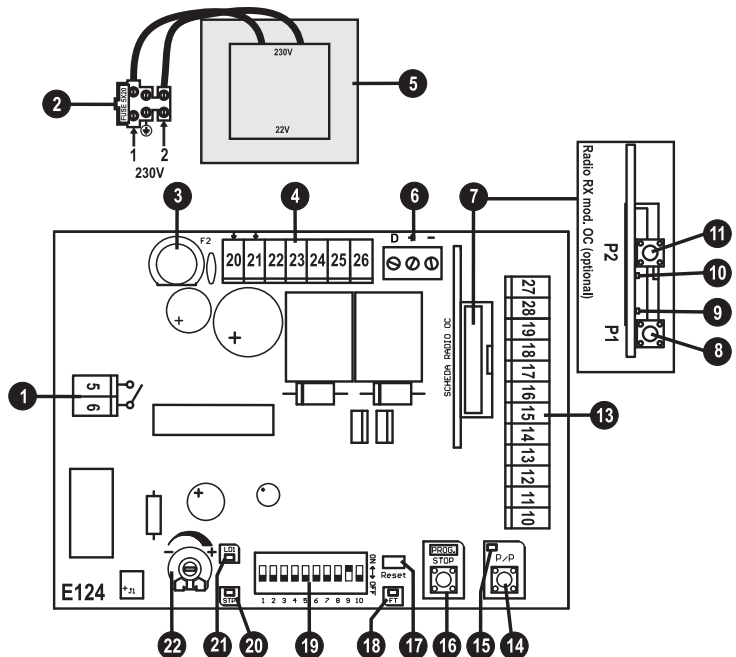
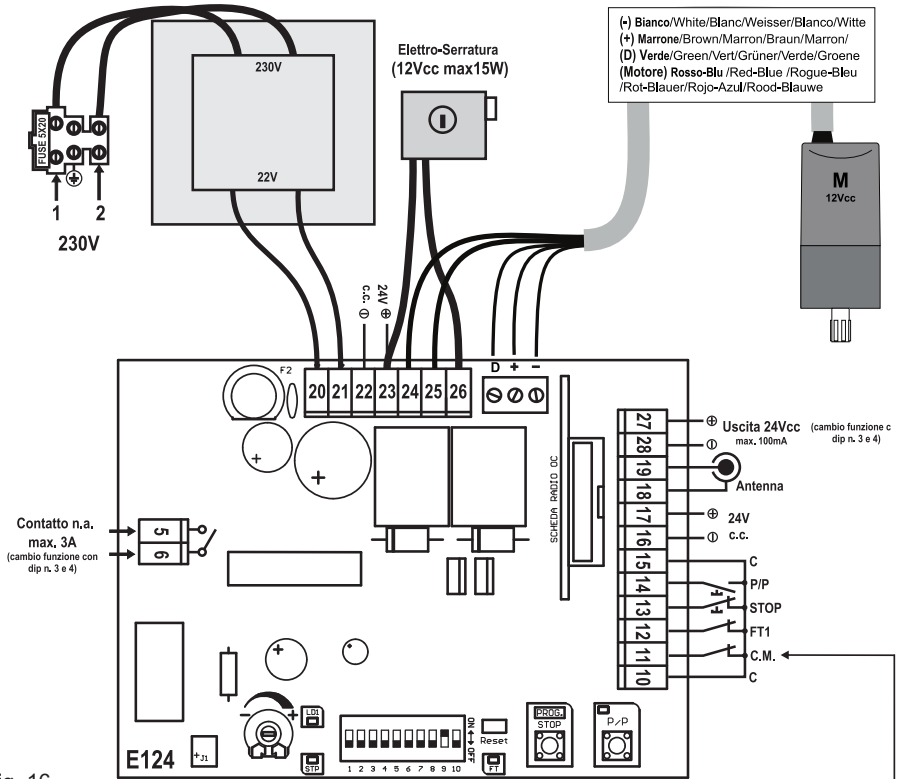

FIG. 15
Fig. 16
Nota: la configuración inicial estándar está representada en el det. 19 de fig. 15.
Lleve a cabo los ensayos de impacto y modifique la velocidad de movimiento por medio del trimmer (detalle 22 Fig. 15).
- Conecte el receptor al conector (detalle 7 de fig. 15)
For connections, refer to tables 1 and 2 and figure 16.
During the self-learning phase, the key S/S is pressed repeatedly (14 in fig 15). Alternatively the S/S control can be used (terminal 14, fig. 16) or the radio transmitter memorised on the first channel of the receiver.
- 2- Press and hold PROG to reset, and use a screwdriver to short the Reset jumper (17 in fig. 15).